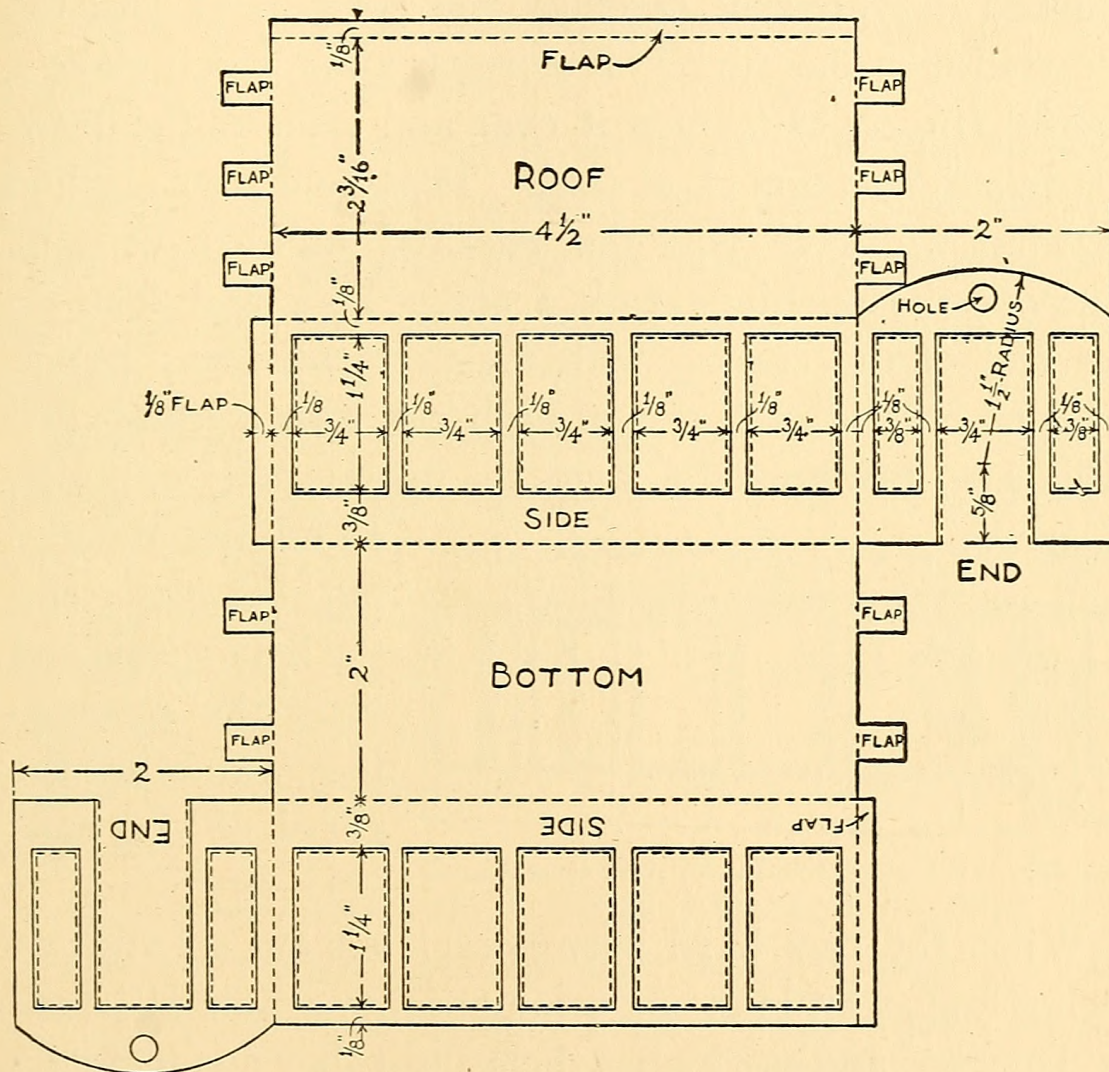

FIG. 276. — Pattern for the Ferris Wheel Cars.
**To make the Cars.** The pattern for the cars is shown in Fig. 276, and on it you will find all the dimensions
ings indicate where the cutting is to be done, while all other dotted lines indicate where the cardboard is to be *scored* and folded. Use a ruler in making the drawing of the car to get the lines straight, and when you have finished it, go over it carefully and compare it with the illustration to be sure it is correct, after which make a careful tracing of it, turn it over and transfer the drawing five times upon cardboard. These and your original drawing will give you the required number of cars. Cut out the openings with a sharp knife and then do the rest of the cutting with a pair of scissors; punch a  $\frac{1}{4}$ -inch hole in each end of each car with a lead-pencil (Fig. 276), being careful to get the holes exactly opposite.